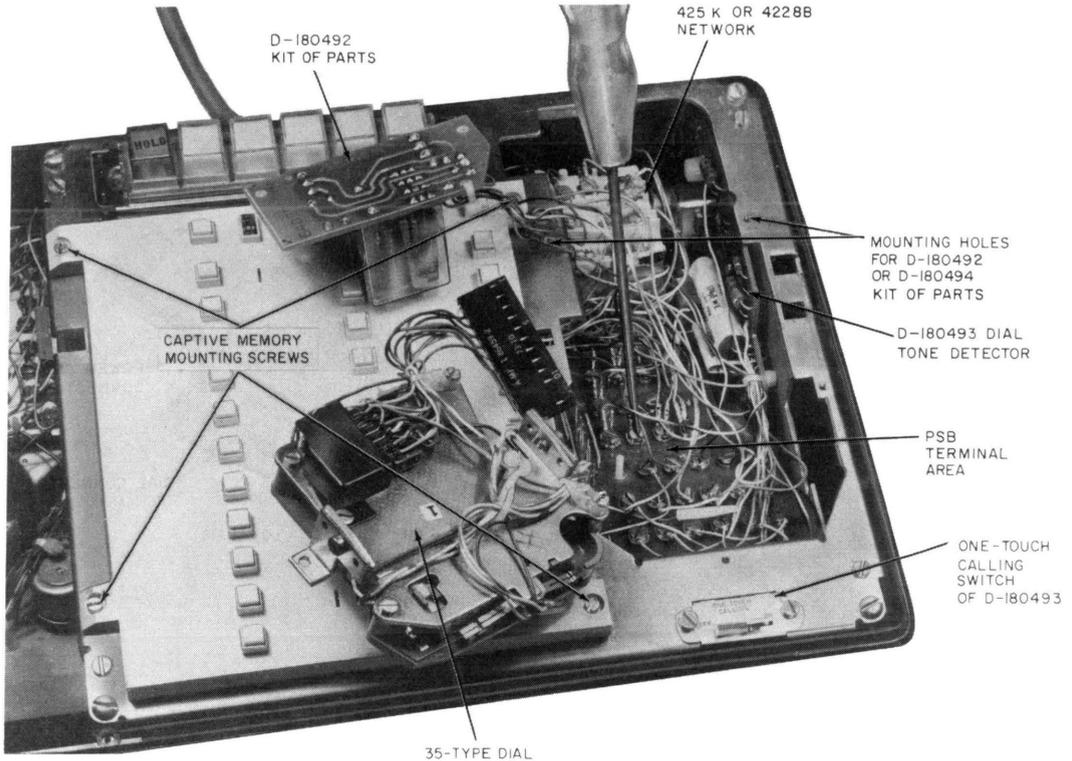

Fig. 4—2872A1M or 2872A2M Telephone Set—Dial Removed To Show Terminal Area
- (1) Proceed as described in 3.15.
- (2) Make connections per Tables B through G.
- (3) Mount the kit assembly to the chassis with the screws provided (Fig. 4). Beveled corner of printed wiring board (PWB) should be located at lower right corner.
- (1) Remove the housing (3.19), and access PSB terminal board (3.15).
- (2) Insert the board assembly from the back of the set and locate as shown in Fig. 4, such that the two tabs on the board assembly fit into the slots in the bottom of the chassis.
- (3) Lock the board into position by inserting the accompanying screw from the side of the set.
- (4) Mount the one-touch calling switch below the dial with the two screws provided.
- (2) Make connections per Table I.
- (3) Mount the kit assembly to the chassis with the screws provided (Fig. 4).
- (b) Under the faceplate, inside the set (Fig. 4 and 5):
- Power supply (PSB) terminal area (Fig. 4)
- Network (Fig. 4)
- Options (Fig. 4):